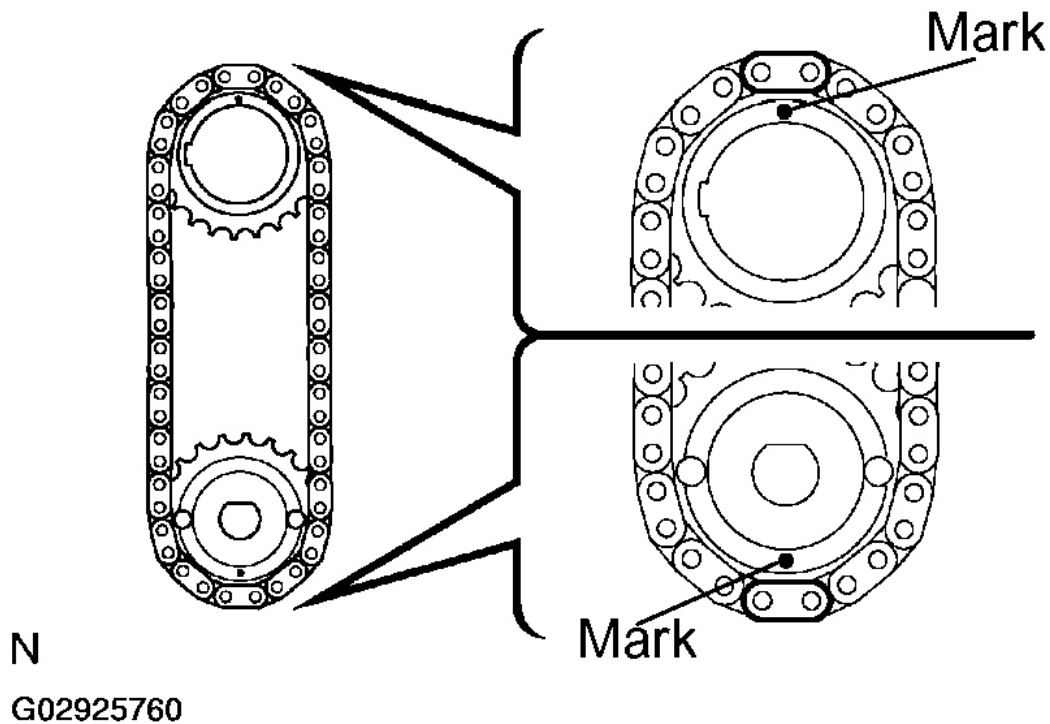

Fig. 33: Setting Chain On Sprockets
- b. Set the chain on the 2 sprockets as shown in **Fig. 33** .